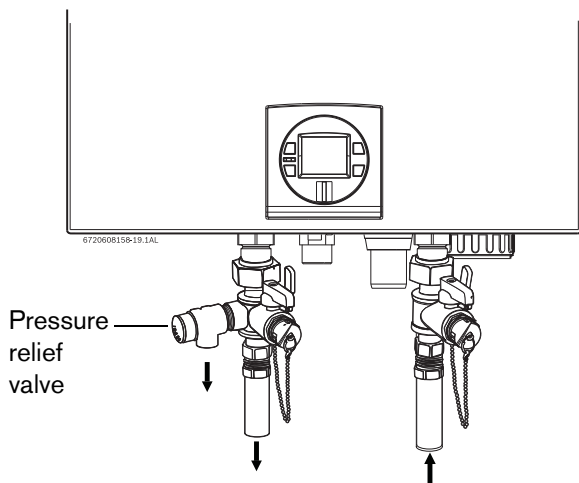

Fig. 34 Plumbing Connections (with shutoff valves) and Pressure Relief Valve
- ▶ **Full port shutoff valves should be installed on both the cold water supply and hot water outlet lines to facilitate servicing the heater (see Fig. 34).**
The location of the PRV must be readily accessible for servicing or replacement, and be mounted as close to the water heater as possible. See Fig. 34. To install the PRV, a suitable fitting connected to an extension on a "T" fitting can be sweated to the hot water line.